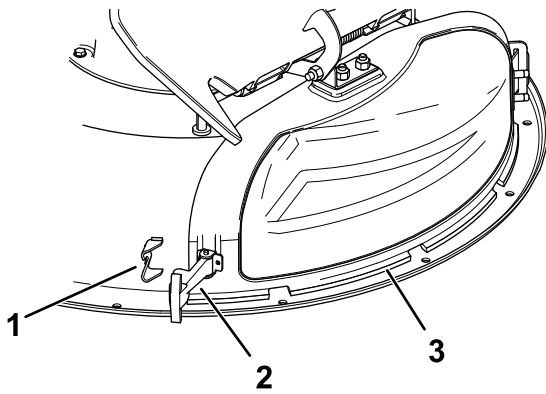

Figure 12
3. Release the flexible latch from the latch retainer on the discharge cover and pivot the discharge cover to the right (Figure 12).
6. Secure the discharge cover to the deck by hooking the flexible latch on the discharge cover into the retainer on the deck (Figure 12).